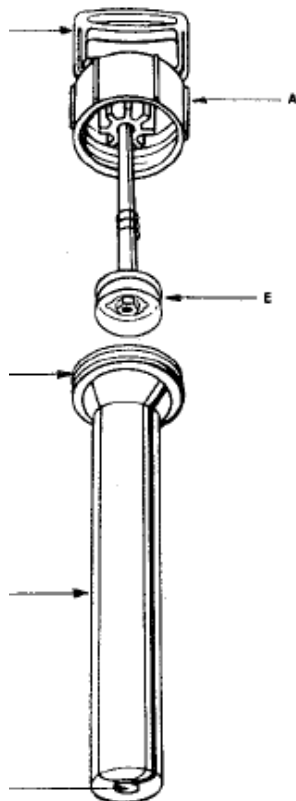

FIG. 4
- Lift pump plunger and apply approximately 10 drops of 20 weight or heavier motor oil in hole provided in top of tank cap (A)
Step 4. Check pump assembly. SEE FIG. 4
- Remove pump plunger by holding pump cylinder (B) firmly and pushing tank cap (A) up with thumbs to remove.
- Inspect cylinder gasket (D). If soiled, clean all surfaces of gasket and rim of tank with clean lint-free cloth. If split or worn, replace using parts from Kit R-30C (refer to back page).
- With pump still disassembled, inspect pump cup (E) for damage. If in good condition, wipe off any foreign particles. If damaged, replace using parts from Kit R-30C (refer to back page). Oil with 20 weight or heavier motor oil.
- Inspect check valve (F). If soiled, clean with lint-free cloth. If worn or split, replace using parts from Kit R-30C (refer to back page).